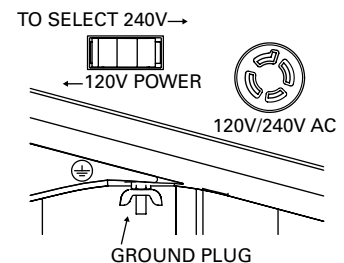

Fig.1
1. Locate the ground plug below the generator control panel (shown in Fig.1).